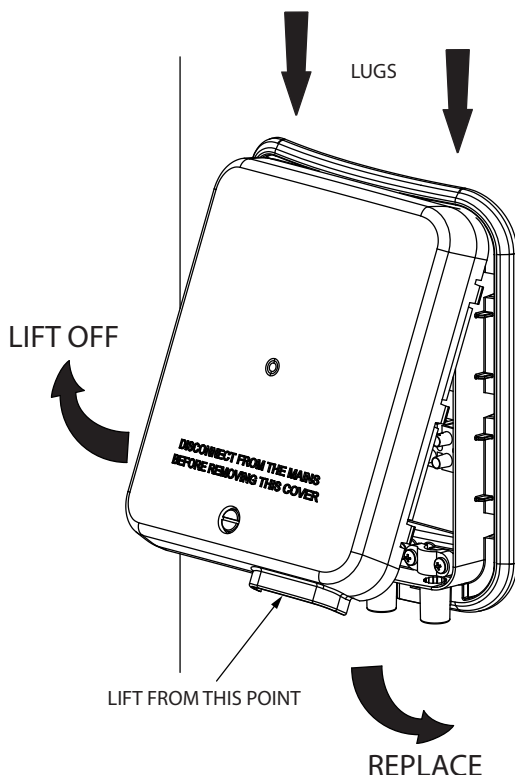

Figure 12: Immersion heater cover removal and replacement
- ▶ The immersion heater and controls are accessed by removing the Control Cover (see Fig 12).
- ▶ Lift from the bottom of the cover at the point indicated on Fig 12 until cover comes away freely.
- ▶ Replace the Control Cover(s) before operating. To do this tilt the cover and align the top two lugs with the holes in the housing as indicated on Fig 12. Hinge the cover downwards and firmly press the cover until it "snaps" back into place. Secure by tightening the screw on the cover using a flat ended screwdriver. DO NOT OVER TIGHTEN
- ▶ The indirect controls and back-up immersion heater are accessed by removing the Control Cover (see Fig 12).
- ▶ Replace the Control Cover(s) before operating. To do this tilt the cover and align the top two lugs with the holes in the housing as indicated on Fig 12. Hinge the cover downwards and firmly press the cover until it "snaps" back into place. Secure by tightening the screw on the cover using a flat ended screwdriver. **DO NOT OVER TIGHTEN**
- ▶ To access the thermostat open the controls housing cover (see Fig 12, page 19)- DISCONNECT THE ELECTRICAL SUPPLY BEFORE OPENING THE COVER(S).